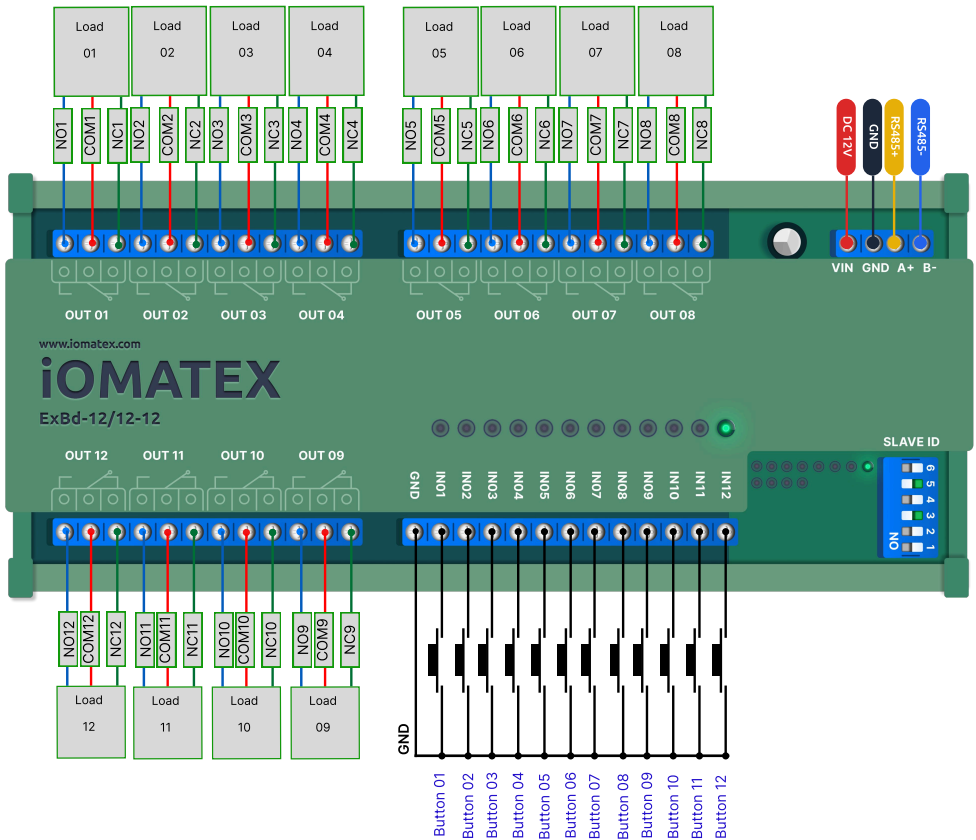

Figure 2. General view of the connection system iOMATEX ExBD-12/12-12 (24)
- Source: Regulated 12 V or 24 V DC supply (depending on the module version) (see Figure 2)
- Supports 7 control modes: “open”, “close”, “momentary”, “self-latching”, “interlocking”, “delay”, and “inter-channel interlock” (see Figure 2)